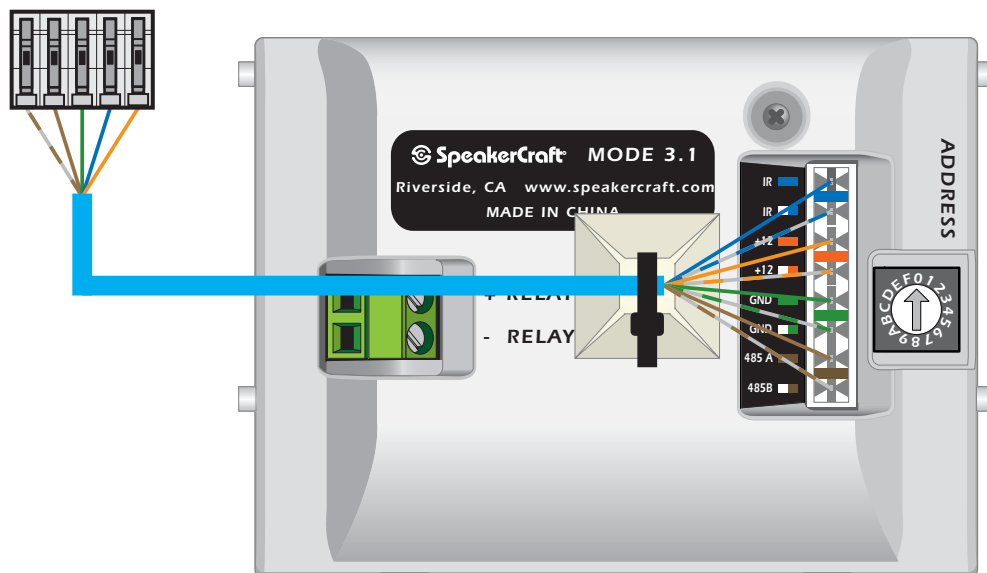

Figure 22
3. Prior to installing the keypad, attach the included **Wire Retainer** to the back of the MODE 3.1 as shown in **Figure 22**. Remove the adhesive backing from the wire retainer and attach with the wire tie oriented vertically as shown, with the retainer lock at the bottom. Pull the retainer over the wire and down through the lock as shown. This will help prevent the wires from becoming disconnected during installation.